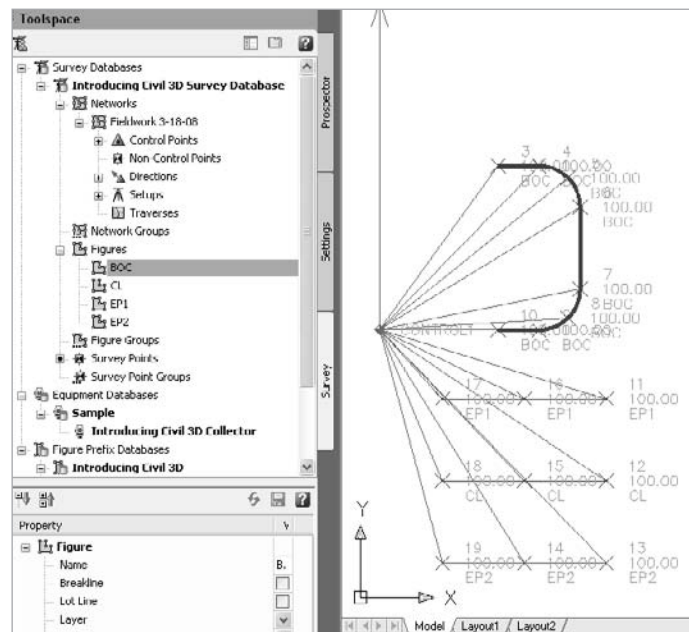

Figure 4.19
6. Select BOC and note that the BOC figure becomes highlighted in the drawing, as shown in Figure 4.19. Also note that figure information appears in the item view at the bottom of the Survey tab.